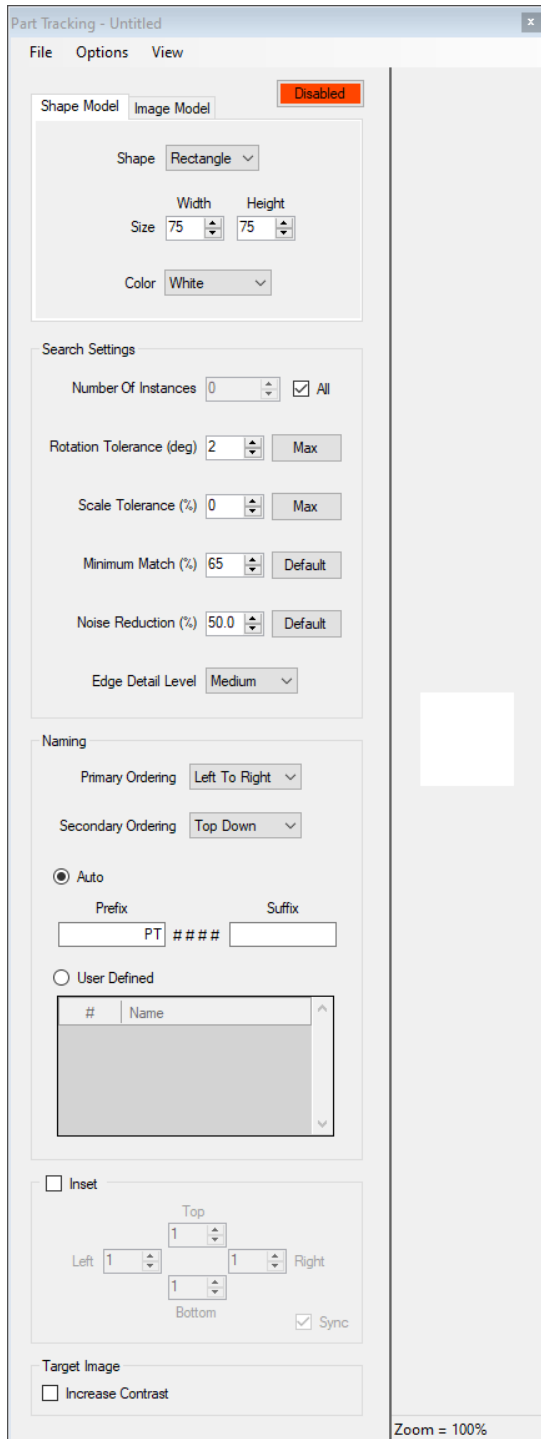

Figure 2.44 Part Tracking – Shape Model
- **Shape Model** – Defines the shape and size of the model that Part Tracking will use to find parts. The model shape and size is represented by the white box on the right side of the Part Tracking window (**Figure 2.44**).
1. Enable Part Tracking in either the Part Tracking Window (**Figure 2.44**) or Camera Window context menu (**Figure 2.20**).